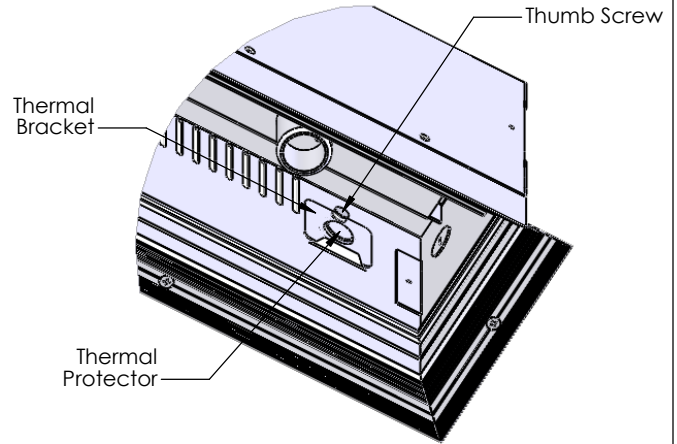

FIGURE 3
3. Once the Trim is removed, the Thermal Protector should be pulled inside the Housing so that the Fixture will slide past the Blocking. To do this, reach inside the Housing, unscrew the Thumb Screw, and pull the Thermal Bracket (with the Thermal Protector attached) into the Housing. (Figure 3) The Fixture can now be hoisted into the ceiling for mounting.